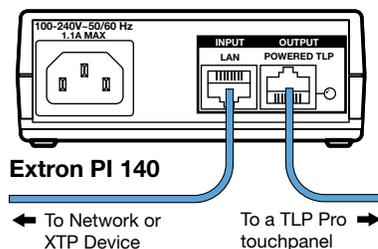

Figure 4. Connecting the Power Injector
- **PoE input** — the connector can be used with a PoE power injector. Connect the cables as shown in figure 4, which shows the Extron PI 140 power injector (recommended by Extron).